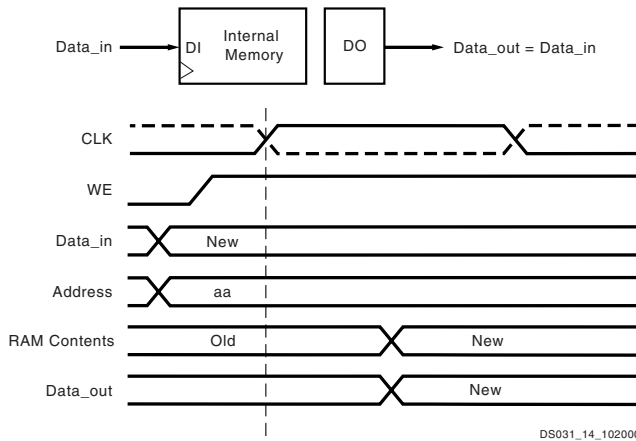

Figure 32: WRITE_FIRST Mode
The "WRITE_FIRST" option is a transparent mode. The same clock edge that writes the data input (DI) into the memory also transfers DI into the output registers DO as shown in Figure 32.